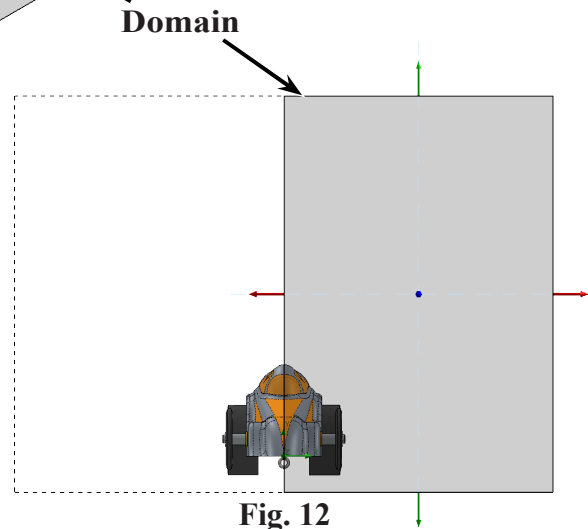

Fig. 12
Step 6. **Only half the car** should be inside the domain, Fig. 12. This will reduce the solver time. Solver can take several minutes.